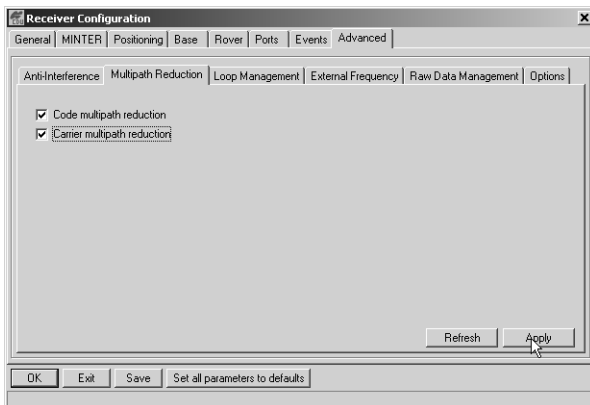

Figure 2-18. Advanced Configuration – Multipath Reduction
5. Click the **Multipath Reduction** tab, enable the following boxes, and click **Apply** (Figure 2-18 on page 2-20).